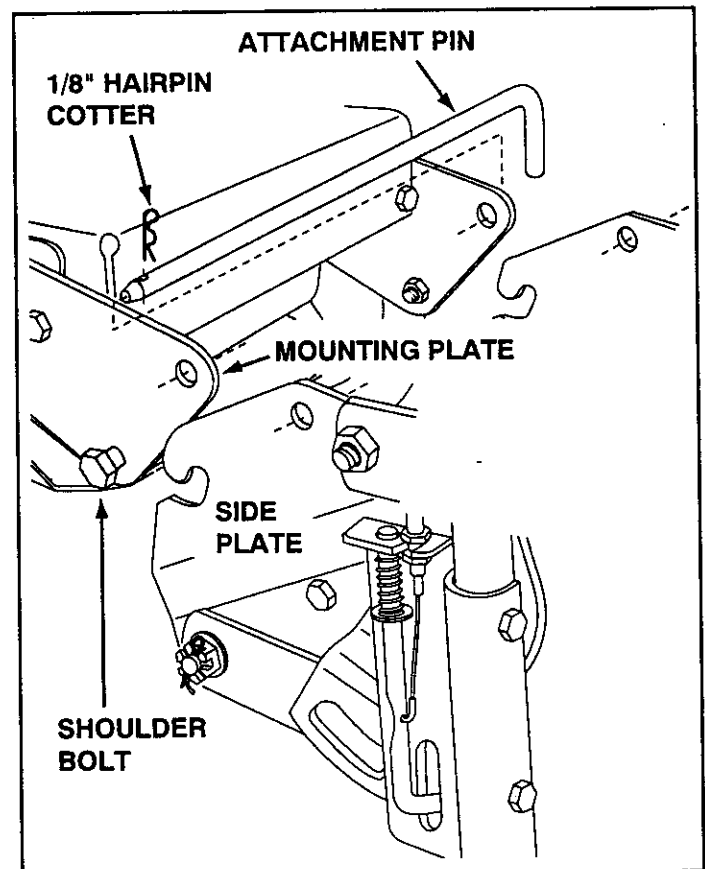
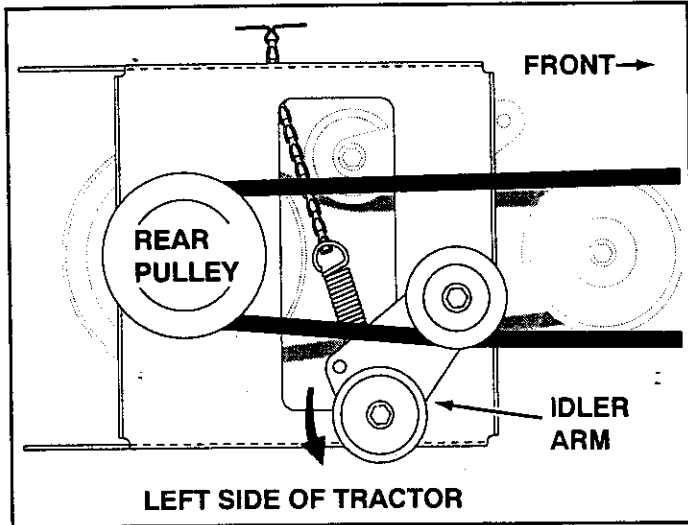

FIGURE 22
FIGURE 23 VIEWED FROM UNDERNEATH
- To ease the assembly of the auger drive belt, delay the installation of the attachment pin shown in figure 22 until you have assembled the belt as instructed for figure 23.
- Beneath the tractor, the idler arm on the bottom of the clutch/idler assembly should be pivoted to the left side of the tractor as shown in figure 23.
- Place the auger belt around the rear pulley and between the two idler pulleys with the "V" side of the belt seated in the grooves of the "V" pulleys. See figure 23.
Lift the front of the snow blower to bring the holes in the mounting plates and the side plates into alignment. From the left side of the tractor, install the attachment pin through the holes, securing it with the 1/8" hairpin cotter. Refer back to figure 22.